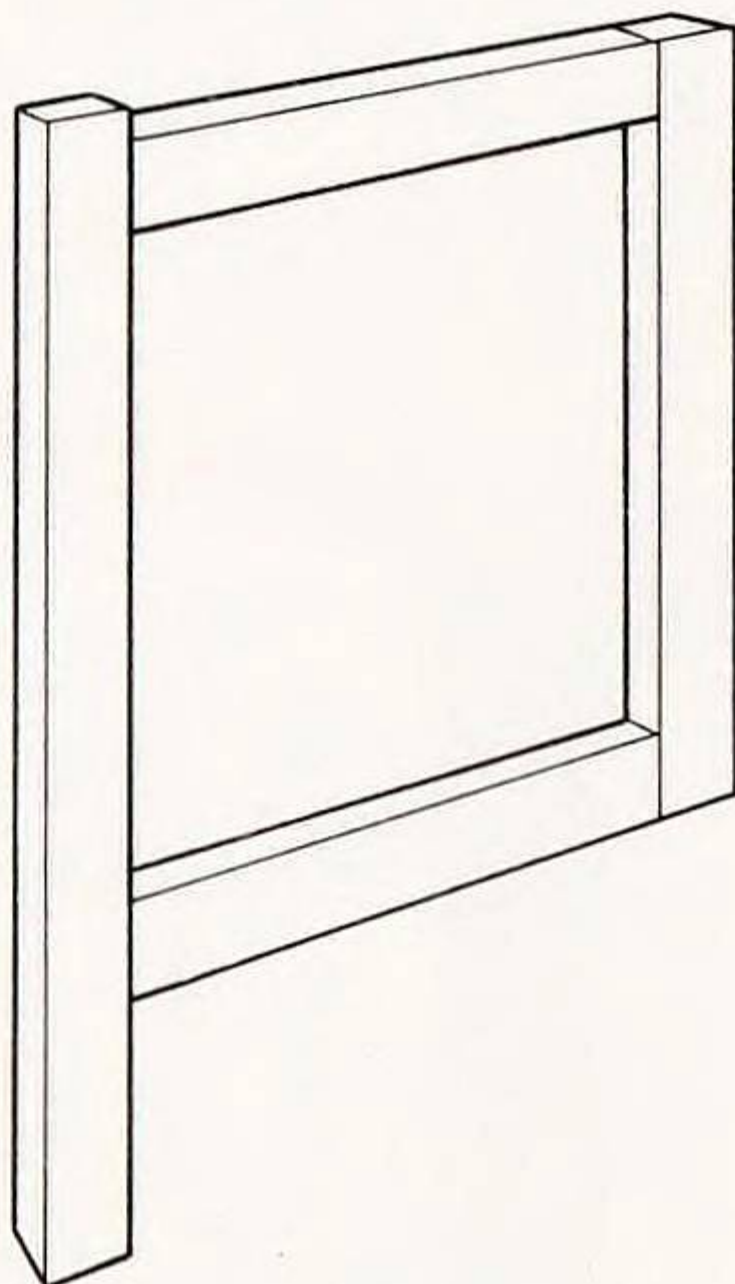

Fig. 3 Assembling the four gate frames
5. Fit all joints dry and check for size and square (see page 16). Assemble these four frames (Fig. 3). Fit the edges between the gates and the vertical stiles in the main frame.